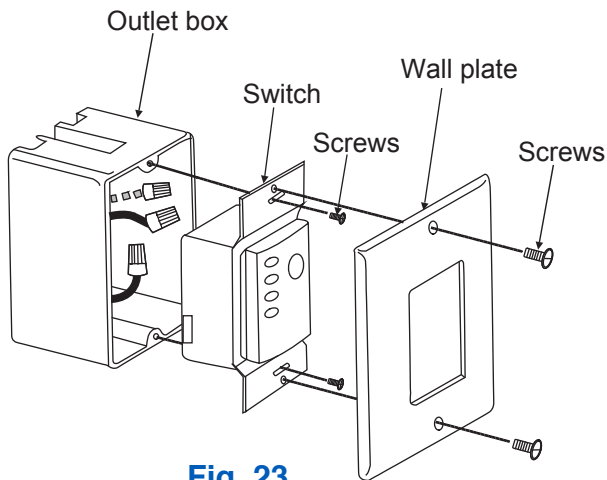

Fig. 23
**Step 2.** Install the wall plate on the existing wall outlet box using the screws provided. (Fig. 23)